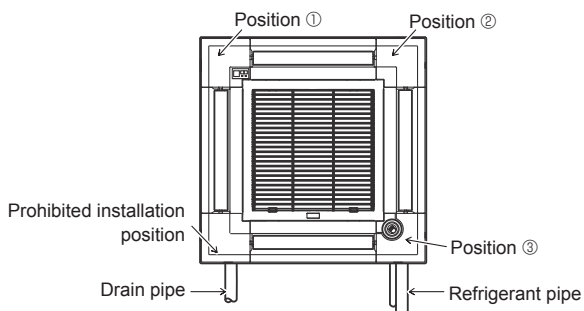

Fig. 9-11
The signal receiver corner panel can not be installed on the drain pipe side for the main unit. (Refer to Fig. 9-11)
- The i-see Sensor corner panel should be fixed onto the grille (①) with screw (③).
- \* If the position of the i-see Sensor was changed from default position (position ①) to the other position, change the function settings. (Refer to page 13 and Fig. 9-11)
- The i-see Sensor corner panel can not be installed on the drain pipe side for the main unit. (Refer to Fig. 9-11)